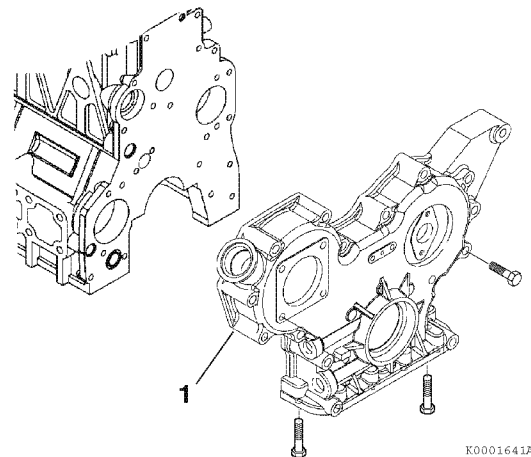

Figure 6-101
1. Apply a continuous bead of ThreeBond Liquid Gasket No. 1207F, YANMAR Part No. 977770-1207F to the mounting area of the gear case cover (Figure 6-101, (1)). Be sure to circle the bolt holes.